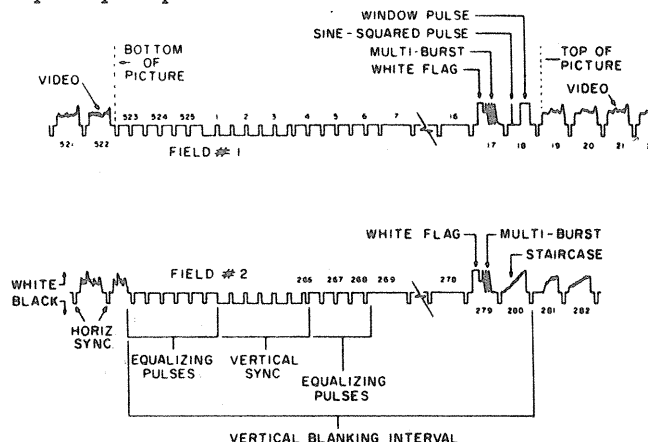
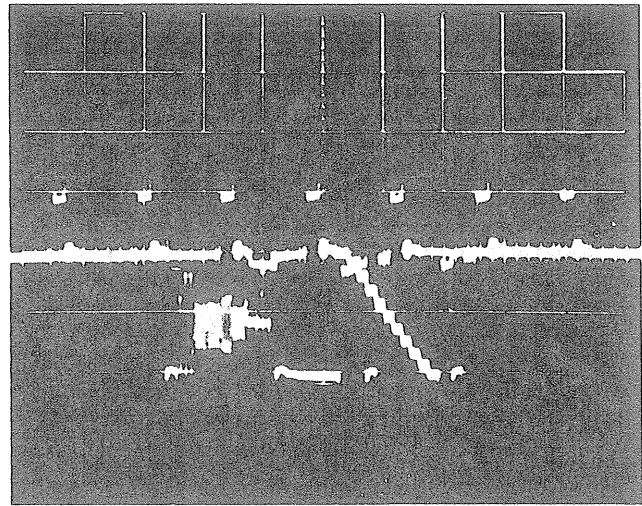

Figure 23. Vertical Blanking Interval Showing VITS Information
Figure 24. VITS as Seen on Oscilloscope, Single-Trace Operation
9. Set the SWEEP TIME/CM control to the .1mS/CM position. This expands the display by increasing the sweep speed. The VITS information will appear toward the right hand portion of the expanded waveform displays. The waveform information on each trace may appear as shown in the drawing of Figure 23. Because there is no
8. The waveform should be similar to that shown in Figure 24. For the oscilloscope display, each vertical sync pulse starts a new sweep. This causes line 17 and line 279 (multi-burst) to be superimposed, as are lines 18 and 280. The multi-burst signals are identical which reinforces the trace. However, lines 18 and 280 are not identical and both signals are superimposed over each other.
9. The presentation of the preceding paragraphs (Figure 24) is the limit of observation possible with a single-trace oscilloscope. With this oscilloscope, however, a single field VITS presentation can be obtained by placing the MODE switch in the ALT position. This causes the Channel 2 information to be displayed on alternate sweeps, as are the Field #1 and Field #2 VITS. Because there is no provision for pre-selecting the Field #1 or Field #2 information, either Field #1 or Field #2 (Figure 23) will appear. The multi-burst information in the VITS is the most valuable for troubleshooting television receivers and, because it is present on both Field #1 and Field #2 VITS, either can be used for troubleshooting and signal tracing.